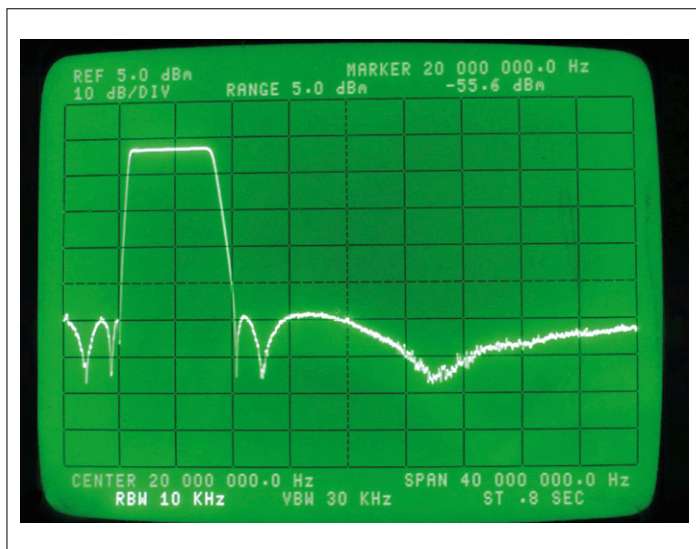
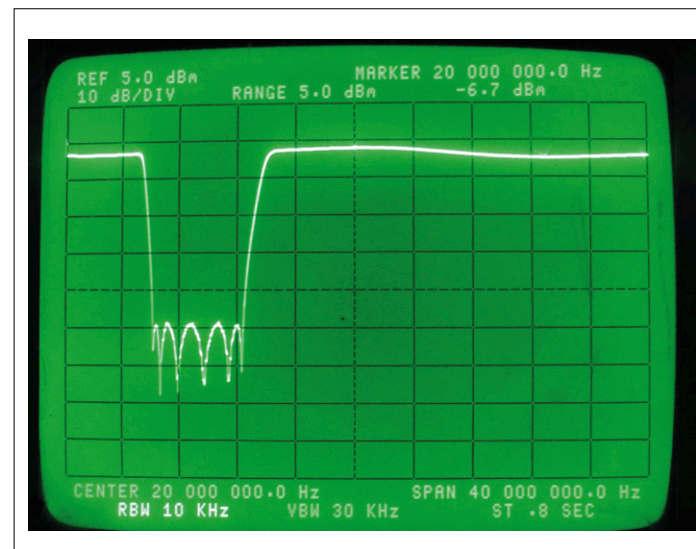

Figure 14. Bandpass filter as implemented.
Figure 15. Response of a notch filter.
**Figure 14** shows the measured response of a bandpass filter constructed in this way, and **Figure 15** the response of the corresponding notch filter.